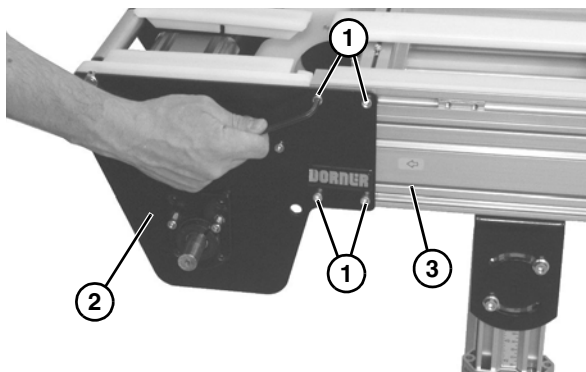

Figure 32
4. Loosen the four socket head screws (**Figure 32, item 1**). Repeat on opposite side.
5. Remove the drive tail assembly (**Figure 32, item 2**) from the frame (**Figure 32, item 3**).